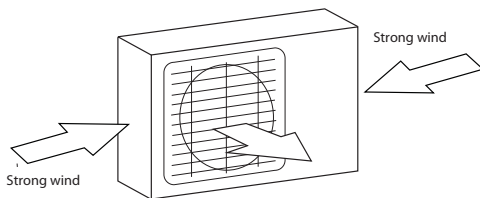

Fig. 5.1
- ☑ If the location is exposed to strong winds (for example: near a seaside), the unit must be placed against a wall to shelter it from the wind. If necessary, use an awning. (See Fig. 5.1 & 5.2)